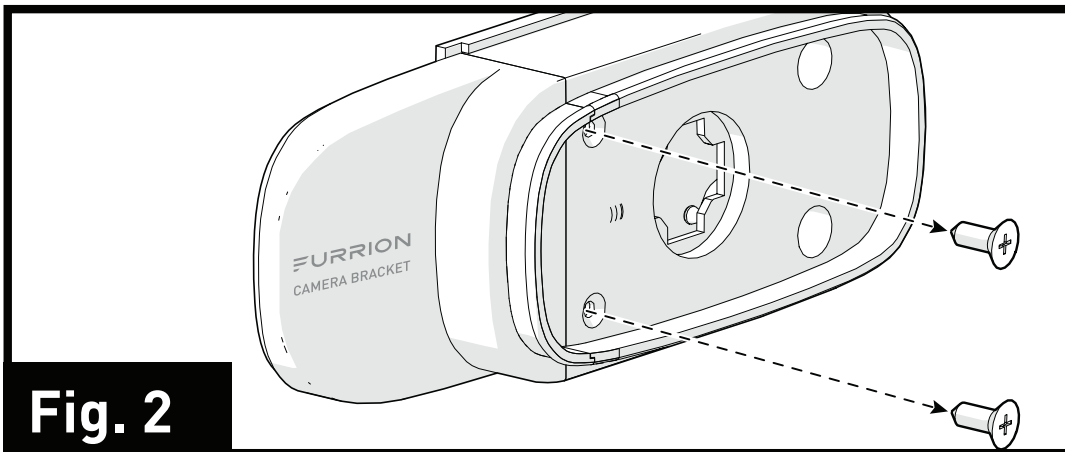

Fig. 2
3. Remove the two screws holding the decorative part using a Phillips-head screwdriver and set aside. (Fig. 2)